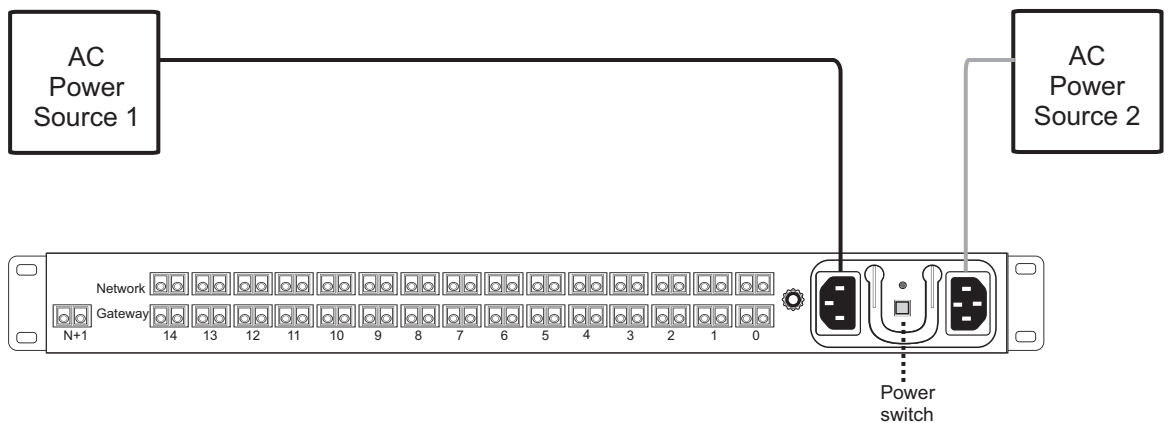

Figure 6.4 AC Power Connection
1. Connect an AC power cable between the AC connector of the 7800 N+1 Patch Panel and an AC supply. See Figure 6.4 on page 50.